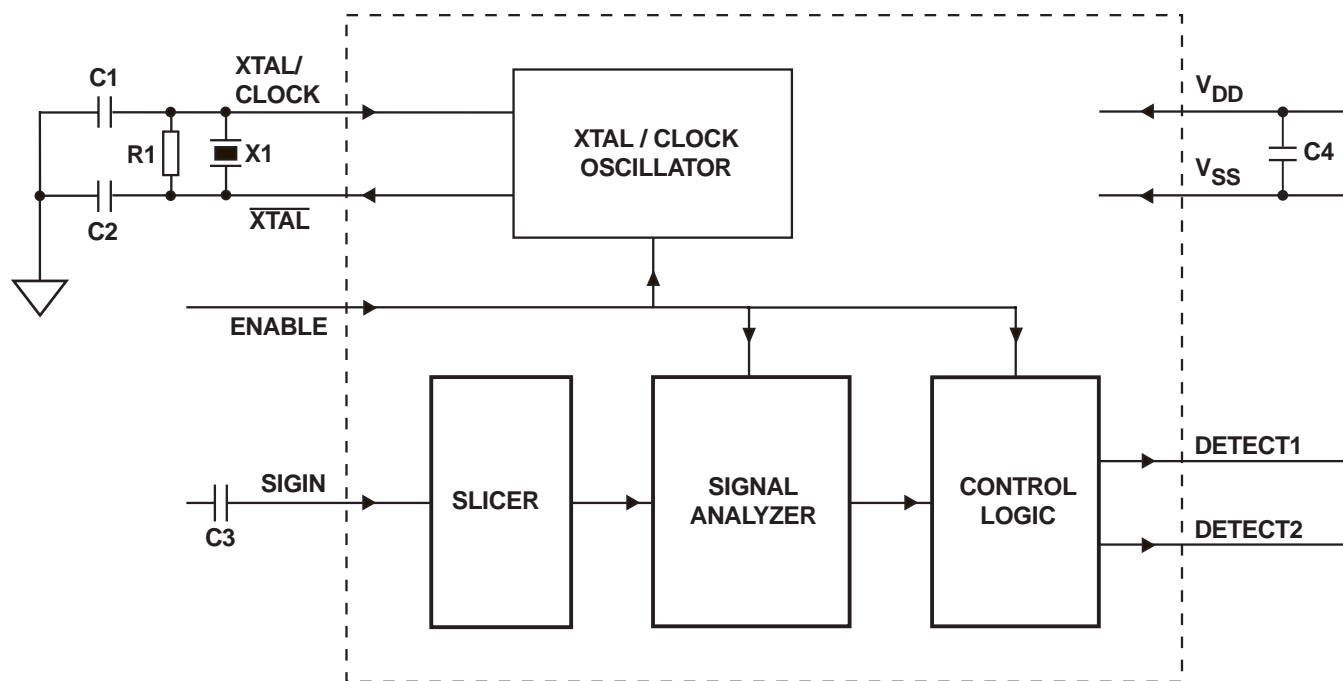

Figure 1: Block Diagram
4.3 Block Diagram Description (Reference Figure 1)